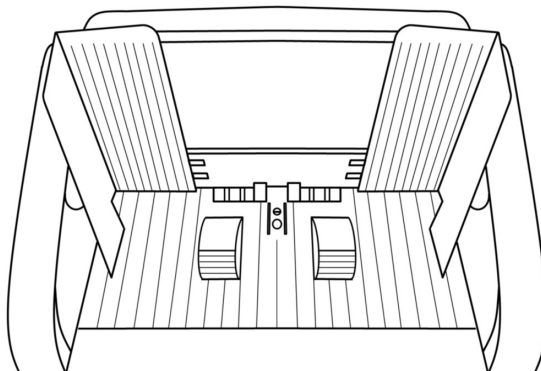

Figure 4
2) Remove the right note guider from the packaging box and fit it into the machine clip in the same way. When both note guider are fully in place, as shown in Figure 4 below: